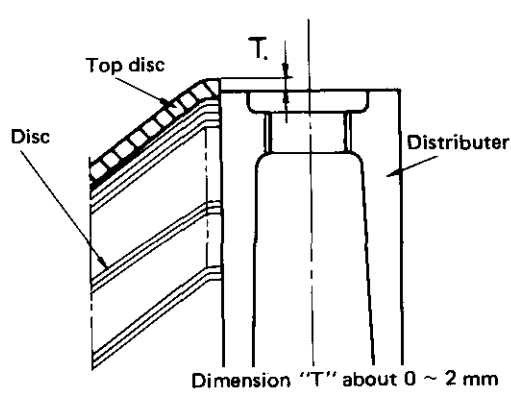

Fig. 6-53
- (6) Since Disc is apt to cause a play owing to phenomenon, in such a case, incorporate a proper number of pieces of spare Disc in addition according to Fig. 6-53.
- (7) In incorporating the bowl in SELFJECTOR, for prevention of causing damage to O-ring of operating water chamber, apply lubricating oil to operating water chamber of operating water supply equipment.